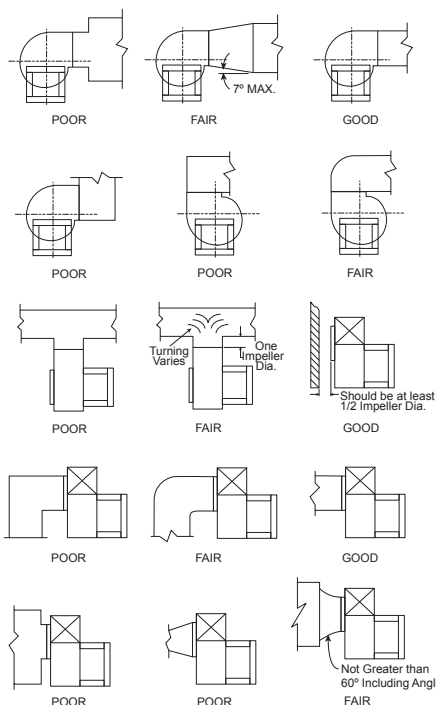

Figure 4
3. Restricted or unstable flow at the fan inlet can cause pre-rotation of incoming air or uneven loading of the fan wheel, yielding large system losses, increase sound levels and structural failure of the blower wheel. Free discharge or turbulent flow in the discharge ductwork will also result in system effect losses. The examples in Figure 4 show the system layout and inlet and discharge configurations which can affect blower performance.
2. Duct System	2. See page 7, Figure 4.